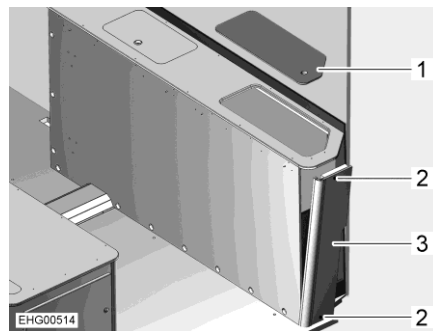

Fig. 109 Bedding box on the right
- Remove the service cover (Fig. 109,1).
- Unscrew 2 screws (Fig. 109,2).
- Reach into the bedding box from above and press the side wall (Fig. 109,3) slightly outwards.